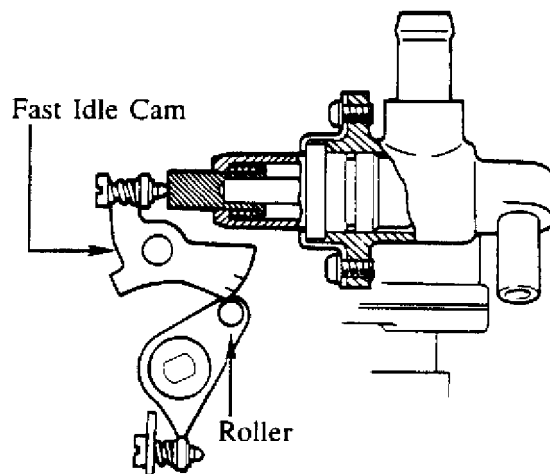

Fig. 1: View of Fast Idle Cam
1. Warm up the engine to the normal operating temperature. Confirm that the fast idle cam separates from the roller as shown. If the fast idle cam is contacting the roller, the engine is not fully warmed. (Fig. 1)